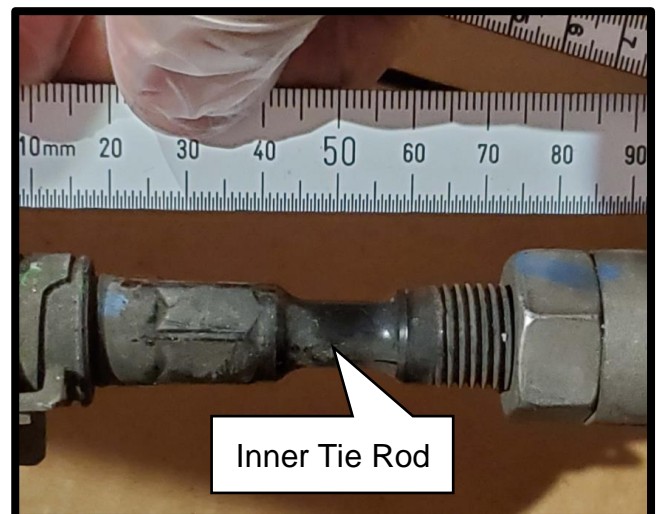

Figure 2
3. Place a straight ruler on both LH and RH inner tie rods as shown in Figure 2 and continue to Step 4 for inspection.
NOTE: The steel rule in Figures 2, 3 and 4 is not intended for measurement purposes but as a straight edge reference.